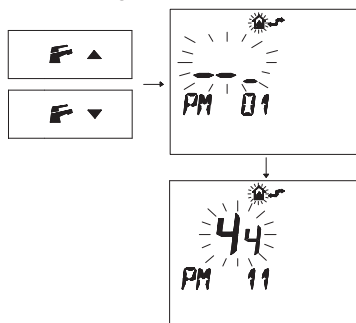

Fig. 7.33
- Press buttons **F** and **DOWN** or **F** and **UP** to display the "PM11" program of the pump post-circulation (Fig. 7.33).